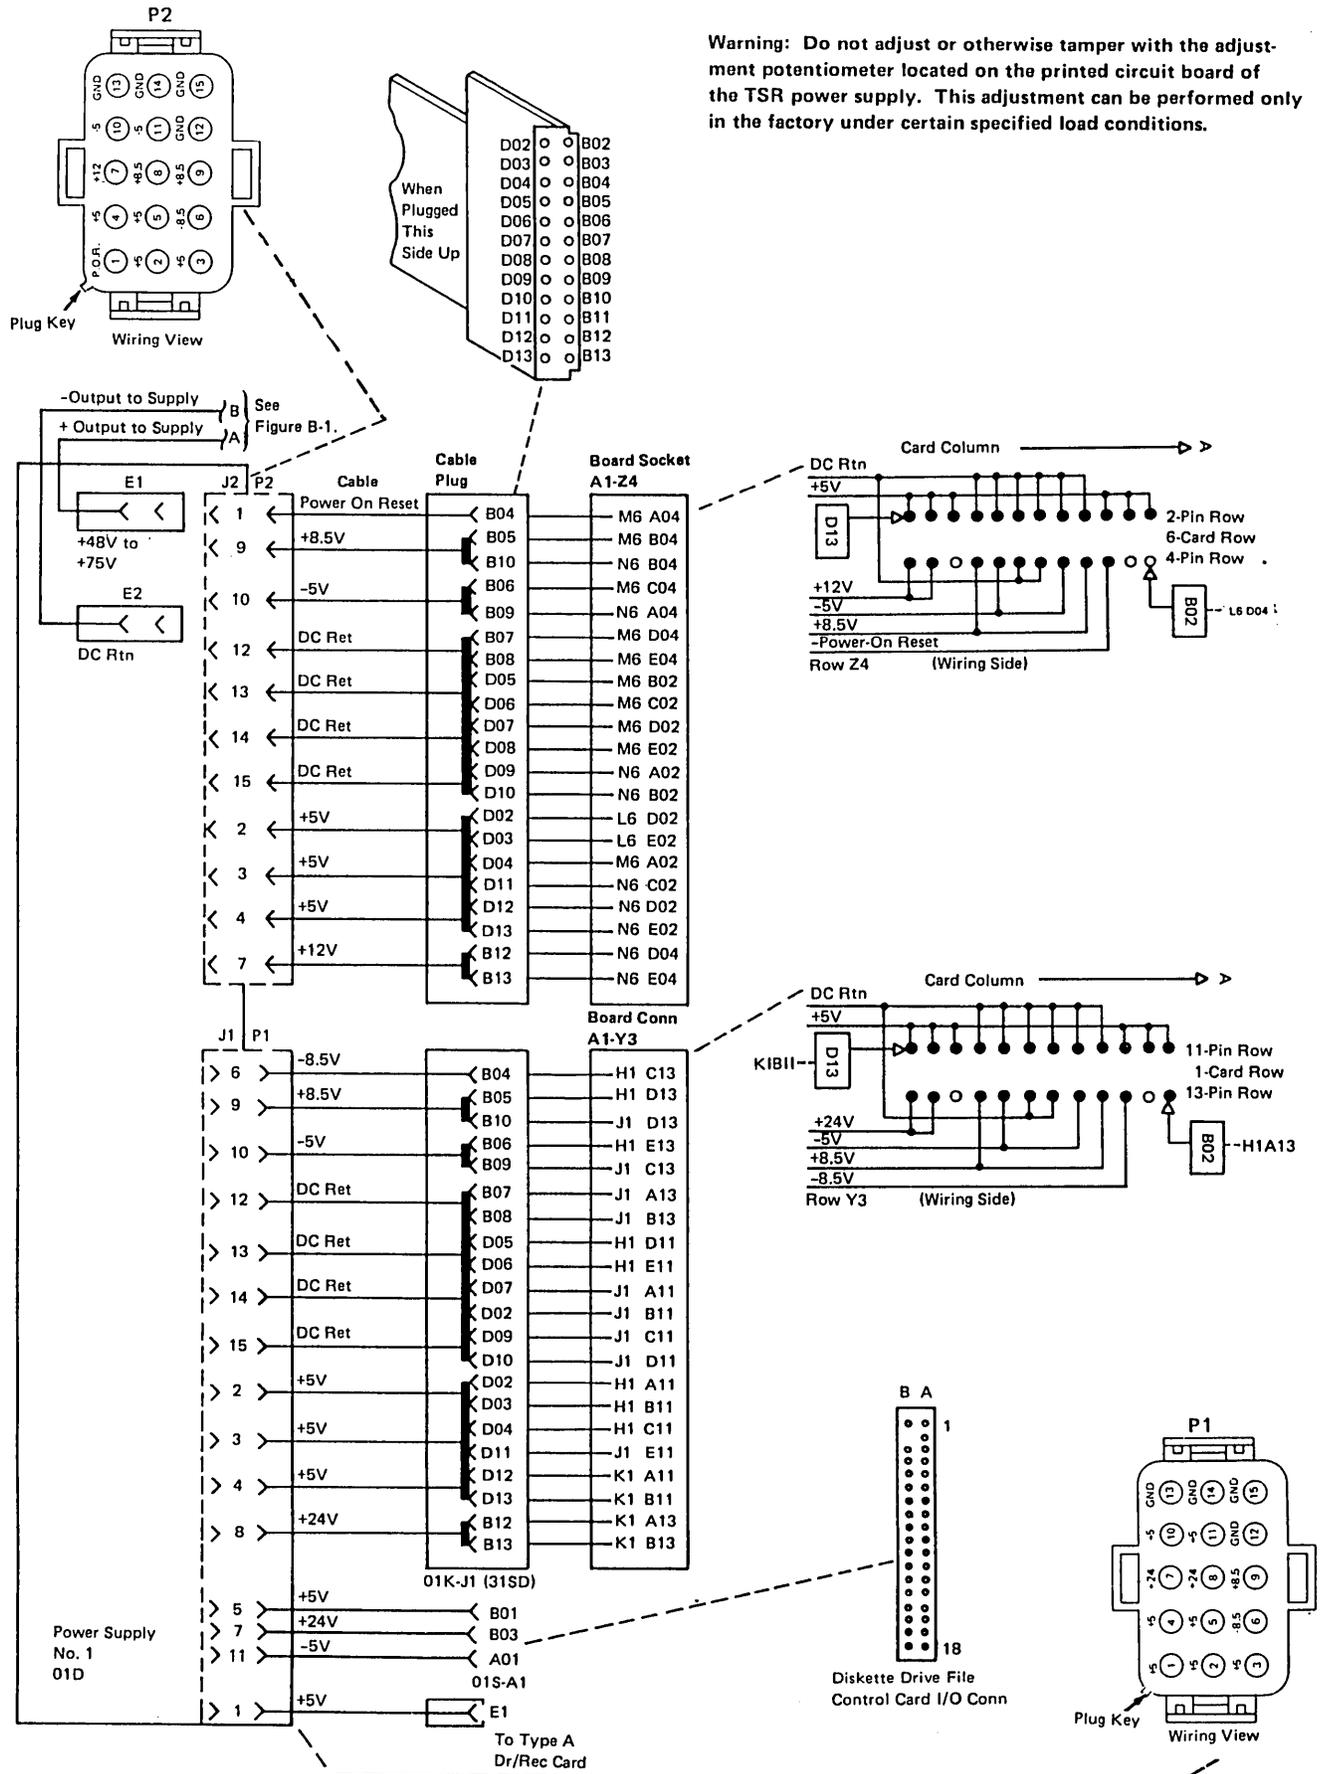

Figure B-2. Single Power Supply System
- Figure B-2. Single Power Supply System B-3